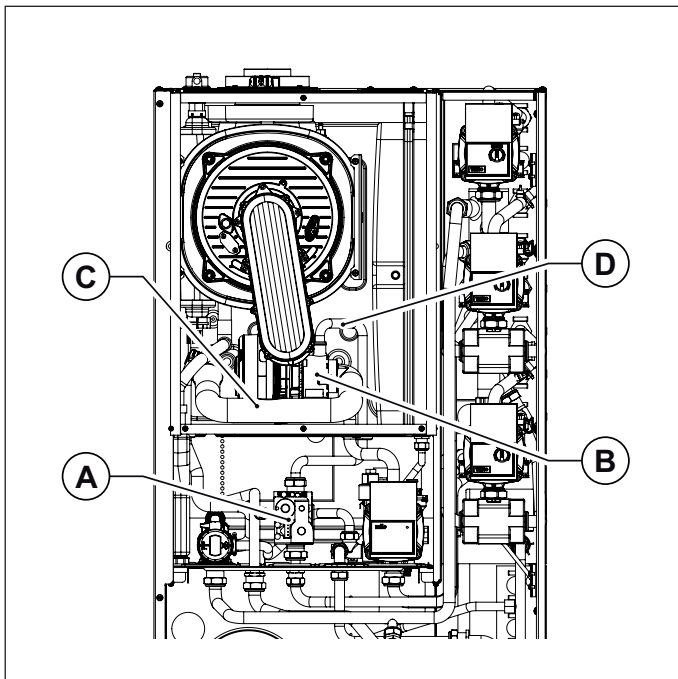

Fig. 28 Intake pipe
- Loosen the screw securing intake pipe to mixer, and remove pipe (see Fig. 28 Intake pipe).
- Disconnect the gas pipe from the mixer (see Fig. 28 Intake pipe).